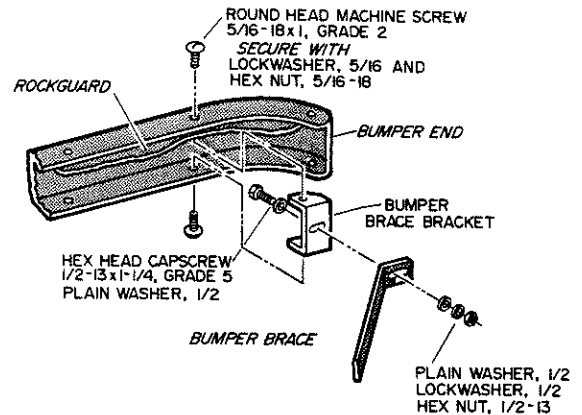

FIGURE 6
10. Attach bumper braces to bumper brace brackets with 1/2-13 x 1-1/4" hex head capscrews, flat washers, lock washers, and 1/2-13 hex nuts. Flat washers must be next to slots in bumper braces and bumper brace brackets. (See Figure 6).
9. Align the bumper brace bracket with the holes in the bumper and rock guard. (See Figure 6 for orientation of bracket.) Secure top and bottom of bracket with 5/16-18 x 1 round head machine screws, lock washers, and hex nuts. Follow same procedure for opposite end of bumper.